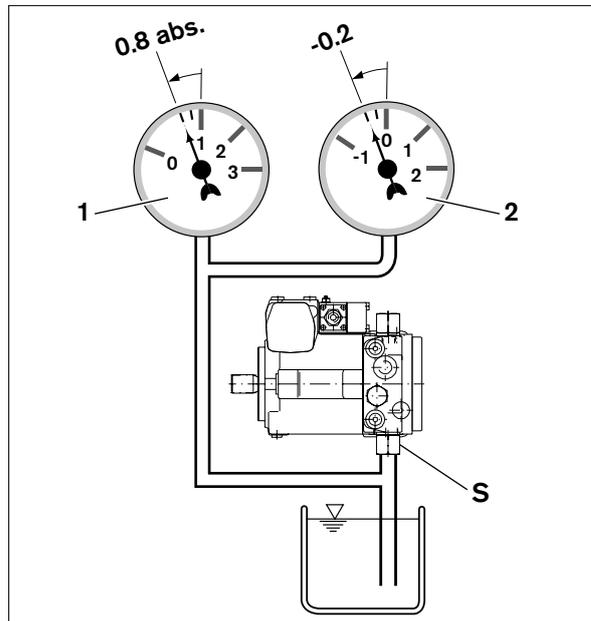

Fig. 19: Suction pressure
- ▶ Make certain that a minimum suction pressure of 0.8 bar absolute is present at port "S" during operation and on cold starts in all installation positions and installation locations for the axial piston pump, see Fig.19. See data sheet for additional values.